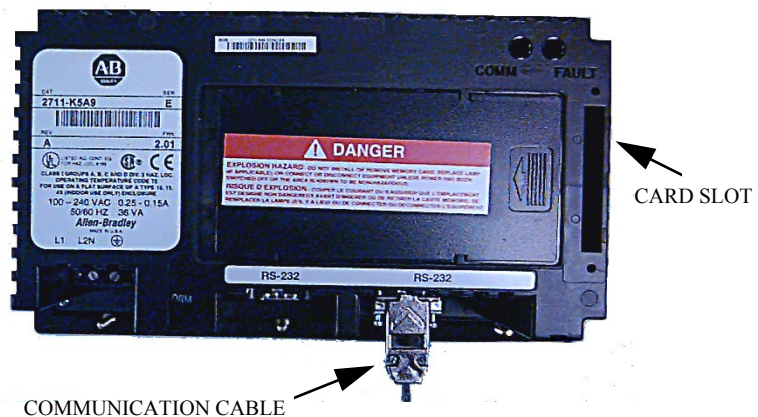

Figure 3.88 – Rear View of Operator Interface
1. Locate the vertical card slot on the back of the operator interface. See Figure 3.88.